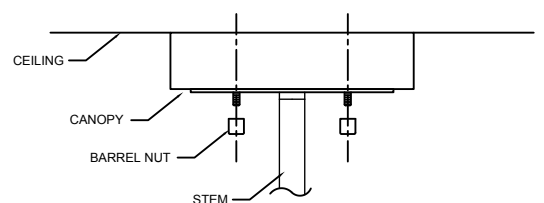

FIGURE-04
8. Pull up & attach the canopy to the mounting strap and secure it with barrel nuts. (See Figure-04)